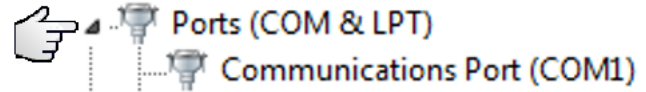

FIGURE 152: COM Port List
4. Select the triangle to the left of **Ports (COM & LPT)** to expand the list (Figure 152).